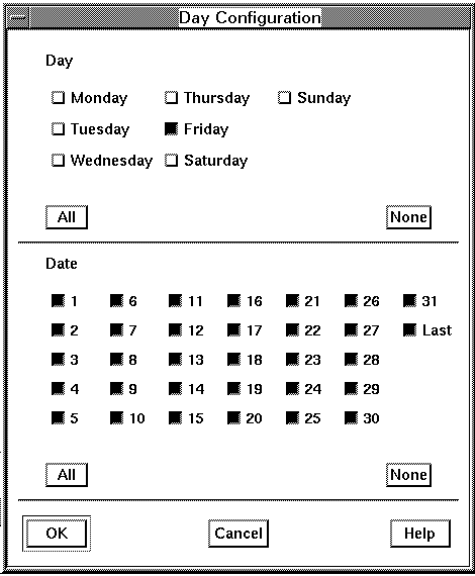

Figure 3-52. Day Configuration Dialog Set for Every Friday of the Month
- b. To select just Friday, first click on the **None** button in the top part to de-select all days of the week, select **Friday**, Figure 3-52, and then click on **OK**.